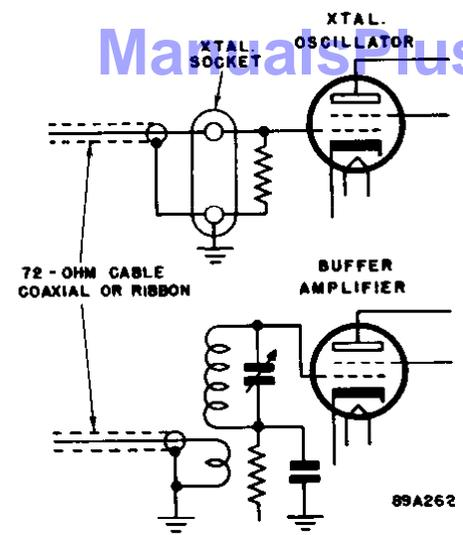

Figure 3. Methods of coupling exciter unit to transmitter
2. **OUTPUT TERMINAL STRIP** - The unit has been designed to operate with a 72-ohm cable, which may be coaxial or ribbon type line. Refer to Fig. 3. for recommended connections at the transmitter end of the line. When using an unterminated line as in the case of feeding a crystal stage, avoid lengths that are multiples of a quarter wave length in the amateur bands. In general a six foot coaxial